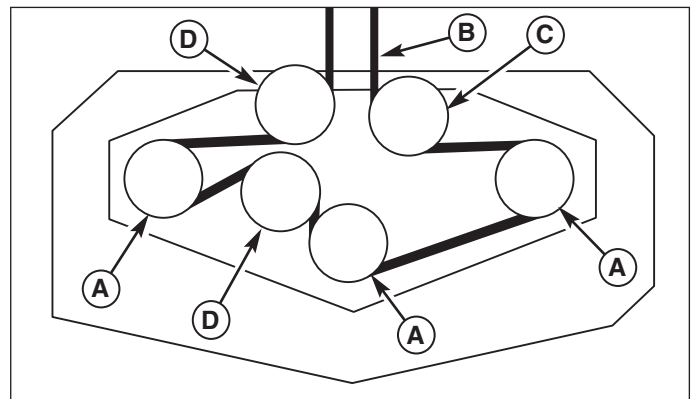

Figure 38. Mower PTO Belt Routing
4. Slide the drive belt over the edge of the stationary idler pulley (B). Carefully release the tension on the breaker bar.
5. Remove the old belt and replace with a new one. Make sure the V-side of the belt runs in the pulley grooves (Figure 38).